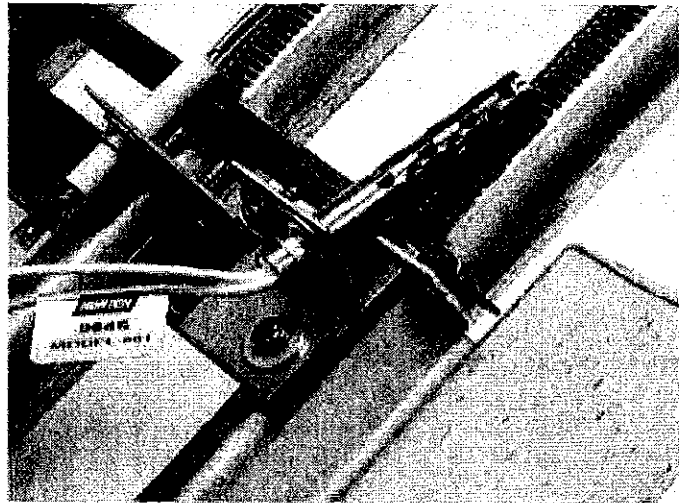

FIGURE 2: Proper Installation of Igniter & Bracket
6. Attach the new igniter to the new bracket with the hex head screw provided (021-16019-000). The correct bracket for these models is shown in Figure 2.
7. Carefully install the new bracket and igniter using the same path as used in removing the old bracket. The proper installation of the new igniter and bracket can be seen in Figure 2.